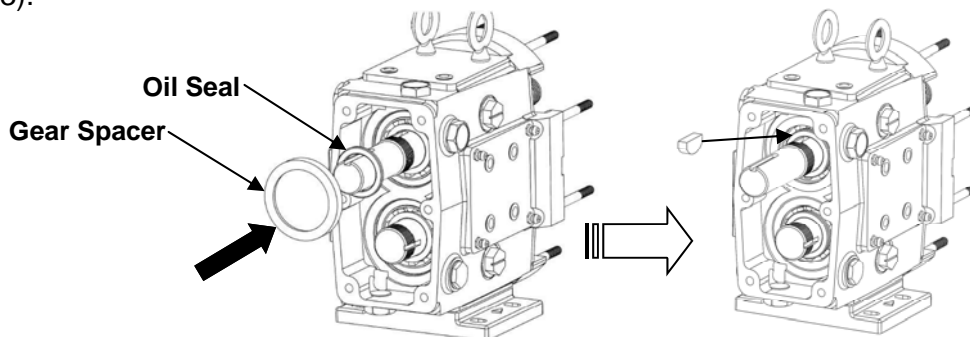

Figure 43: Rear Oil Seal and Gear Key Installation
7) Apply a light film of lubricant to the inside and outside diameters of the rear oil seals and install them into the back of the gear case with the spring side facing outward toward the gear. Install the gear spacers onto the shaft and place the gear keys into the shaft key slots (Figure 43).